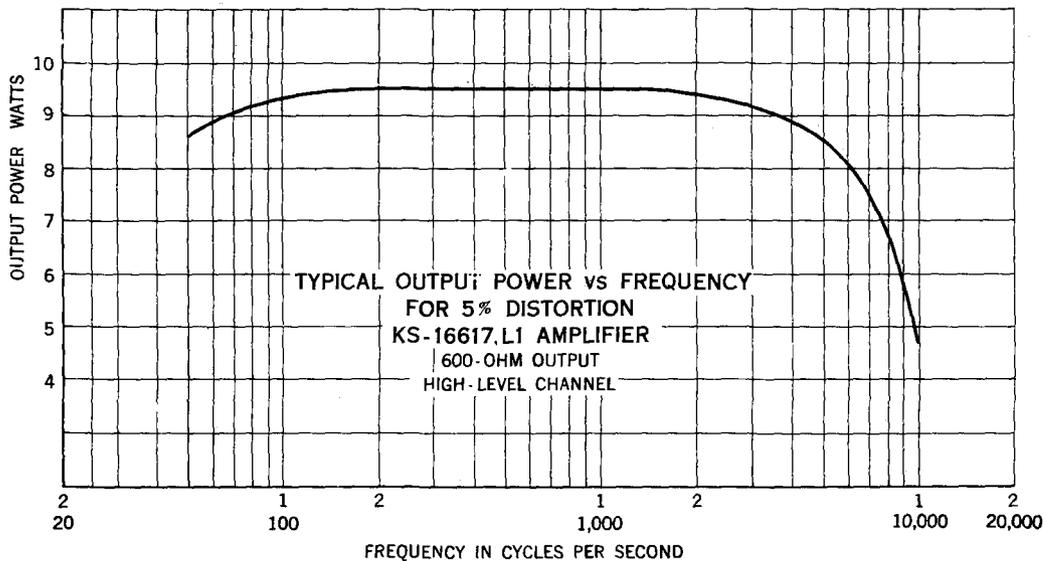

Fig. 4 - High-Level Channel Output — Power vs. Frequency
6.02 Fig. 4 shows the output power versus frequency for the high-level channel with 5% distortion.